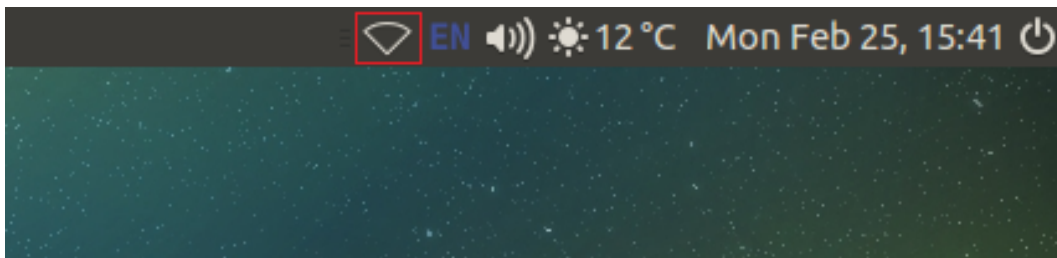

Figure 4: Gnome Network Manager
8. Now on the top right corner in Fig. 4, a different icon should appear. Click it and select the **Edit Connections...** option.